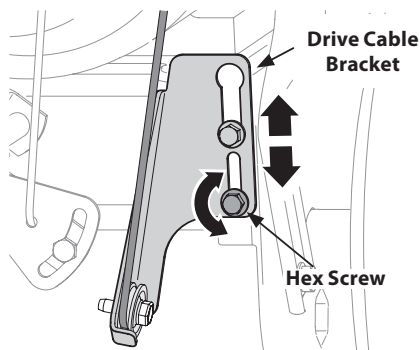

Figure 2-62
2. Loosen lower hex screw on drive cable bracket. See Figure 2-62.